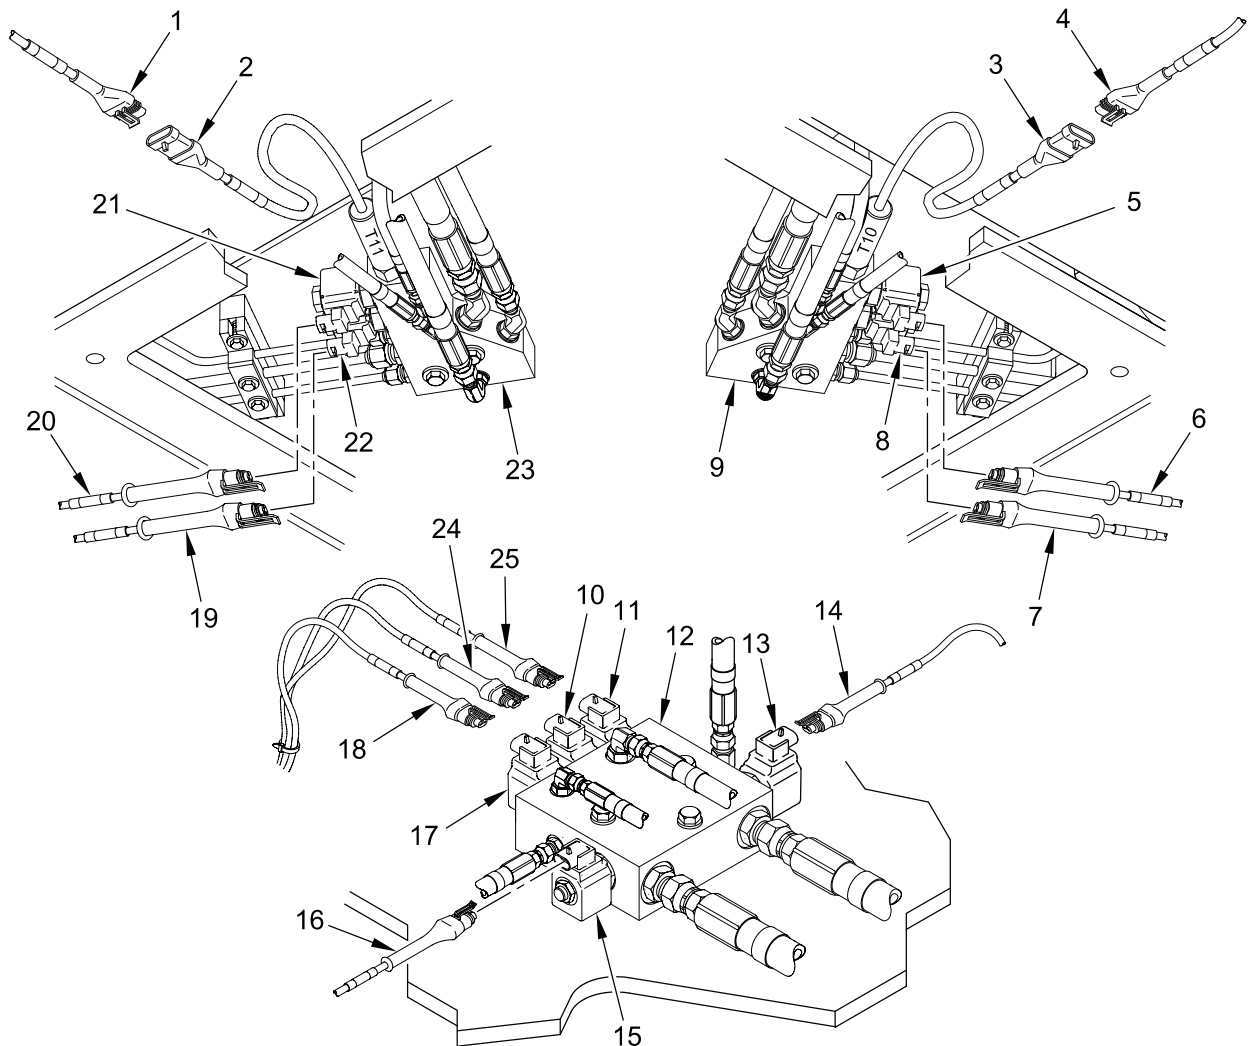

Figure 4. Installing Wiring Harness W3 Connections Under Vehicle
4. From access under vehicle, connect the following W3 wiring harness connectors to the aft manifold (Figure 4, item 12): connector P4 (Figure 4, item 25) to valve V4 (Figure 4, item 11), connector P6 (Figure 4, item 14) to valve V6 (Figure 4, item 13), connector P7 (Figure 4, item 16) to valve V7 (Figure 4, item 15), connector P8 (Figure 4, item 18) to valve V8 (Figure 4, item 17), and connector P18 (Figure 4, item 24) to valve V18 (Figure 4, item 10).
5. From access under vehicle, connect the following W3 wiring harness connectors to the forward left manifold (Figure 4, item 9): connector P3 (Figure 4, item 7) to valve V3 (Figure 4, item 8), connector P9 (Figure 4, item 6) to valve V9 (Figure 4, item 5), and connector P30 (Figure 4, item 4) to transducer T10 (Figure 4, item 3).